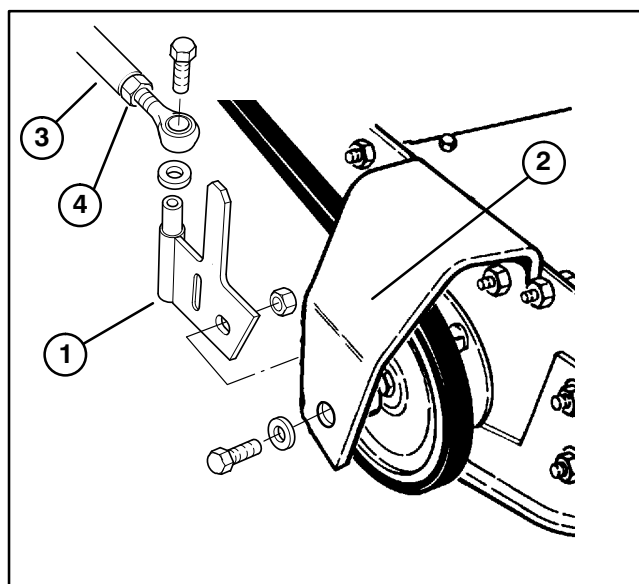

Figure 1
1. On pulley end of each cutting unit, loosen jam nut on end of belt tension rod. Rotate rod to release cutting unit belt tension (Fig. 1).
2. Remove capscrew and washer securing tension rod ball joint to tension bracket pin (Fig. 1). Remove ball joint from tension rod pin.
3. Remove capscrew and washer securing belt tension bracket to inside of tensioner bracket. Remove belt tension bracket (Fig. 1).